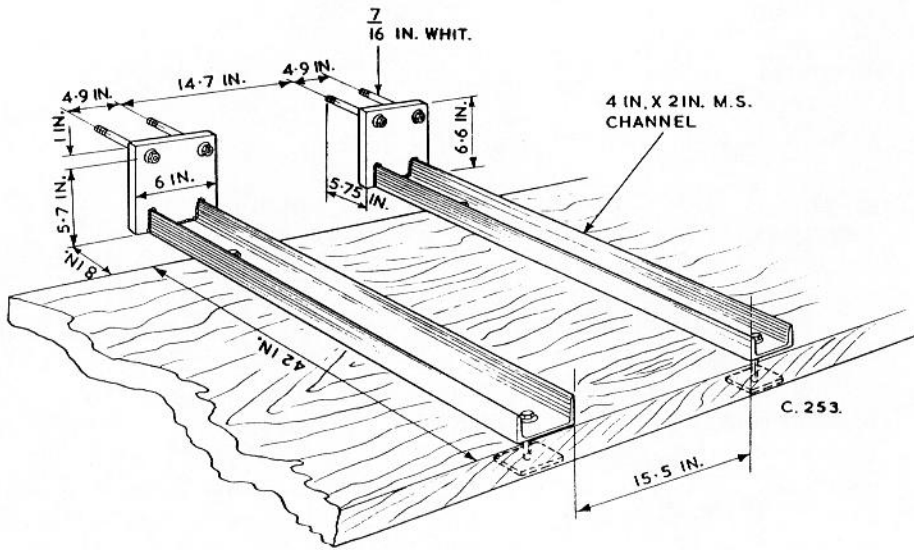

Fig.4 Dismantling and assembling fixture.
The dismantling and assembling will be facilitated if a fixture similar to that illustrated in Fig. 4 is made and bolted to the bench. The top holes in
1. Bolt the cross-member to the bench fixture, see Fig. 4.
8. Fit the bottom bracket over the end of the transverse spring and insert the safety link between the bracket and the spring at the front. Assemble the distance washer between the bracket and the spring see Fig. 4. The washers are available in the following thicknesses:-